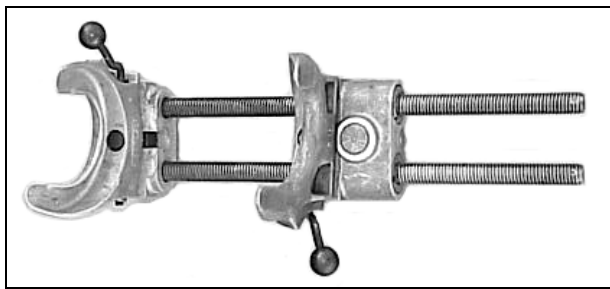

Figure 3
11) Install a quality coil spring compressor like the one shown in figure 3. Compress the spring.